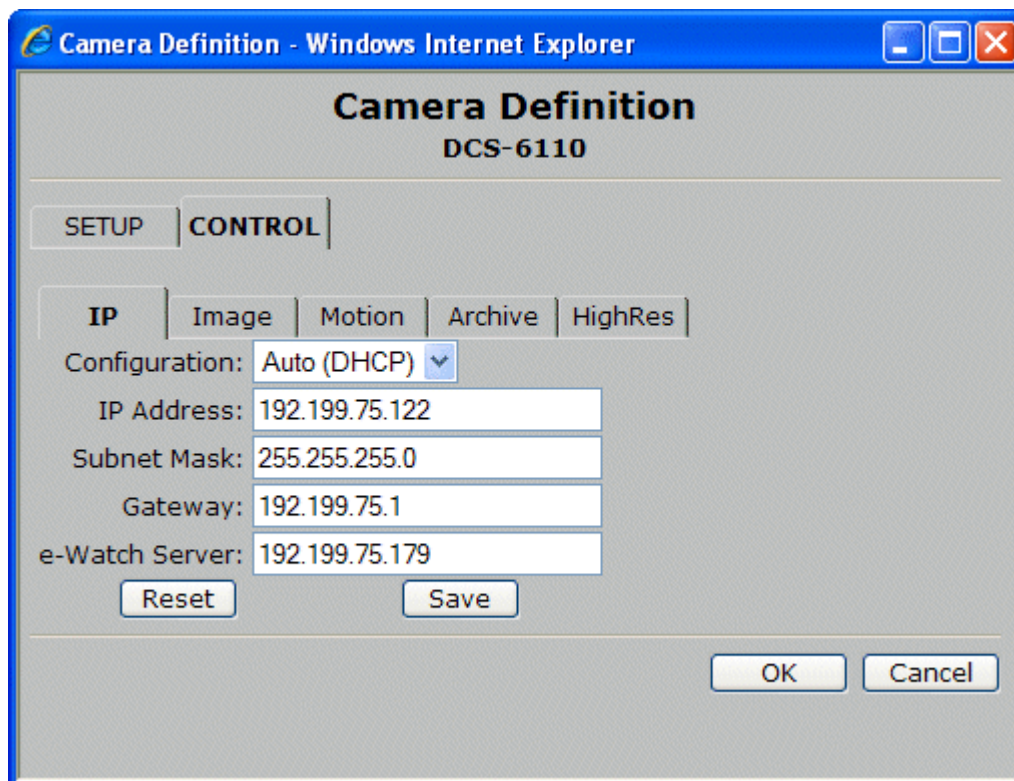

Figure 4-6. Manually Updating The Camera's IP Address
If you change the IP address of an D-Link camera that does not support Event Configuration, follow these steps to manually update the camera's IP address in the e-Watch system. See Figure 4-6.
- Figure 4-6. Manually Updating The Camera's IP Address 16